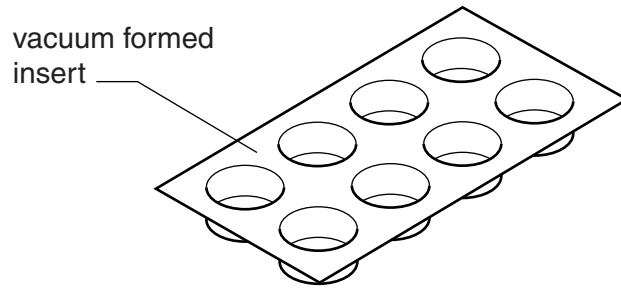
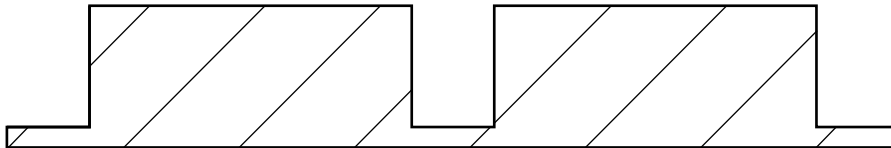

Fig. 3
Fig. 4
- (d) Fig. 3 shows another design for an insert for the point of sale display. The insert is vacuum formed from thin plastic sheet.
- (e) Fig. 4 shows a section through the mould that would be used to vacuum form the insert shown in Fig. 3.
On Fig. 4, sketch **two** modifications that will make the plastic insert easier to form. [2]